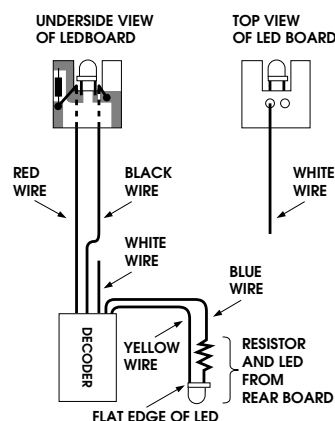

Fig. 2
- Attach the BLACK and RED wires as shown (Fig. 2). Solder White wire to front light board as shown (Fig. 2).
- Remove the LED and resistor from the rear board and solder to yellow wire as shown (Fig. 2).